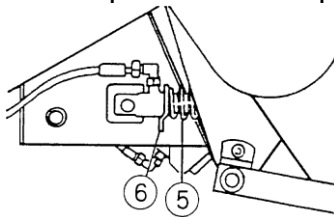

Fig. 18
The **pickup lifting support** also needs to be adjusted. This is done by adjusting the spring (5) located on the outside of the pickup lifting cylinder on each side. (See figure 18). Lift the pickup all the way up. Move the spring lock (6) forwards or backwards until the pickup has adequate ground pressure. Adjust the spring pressure so the pickup can move slightly downwards during operation in order to be able to pass over bumps and uneven ground.